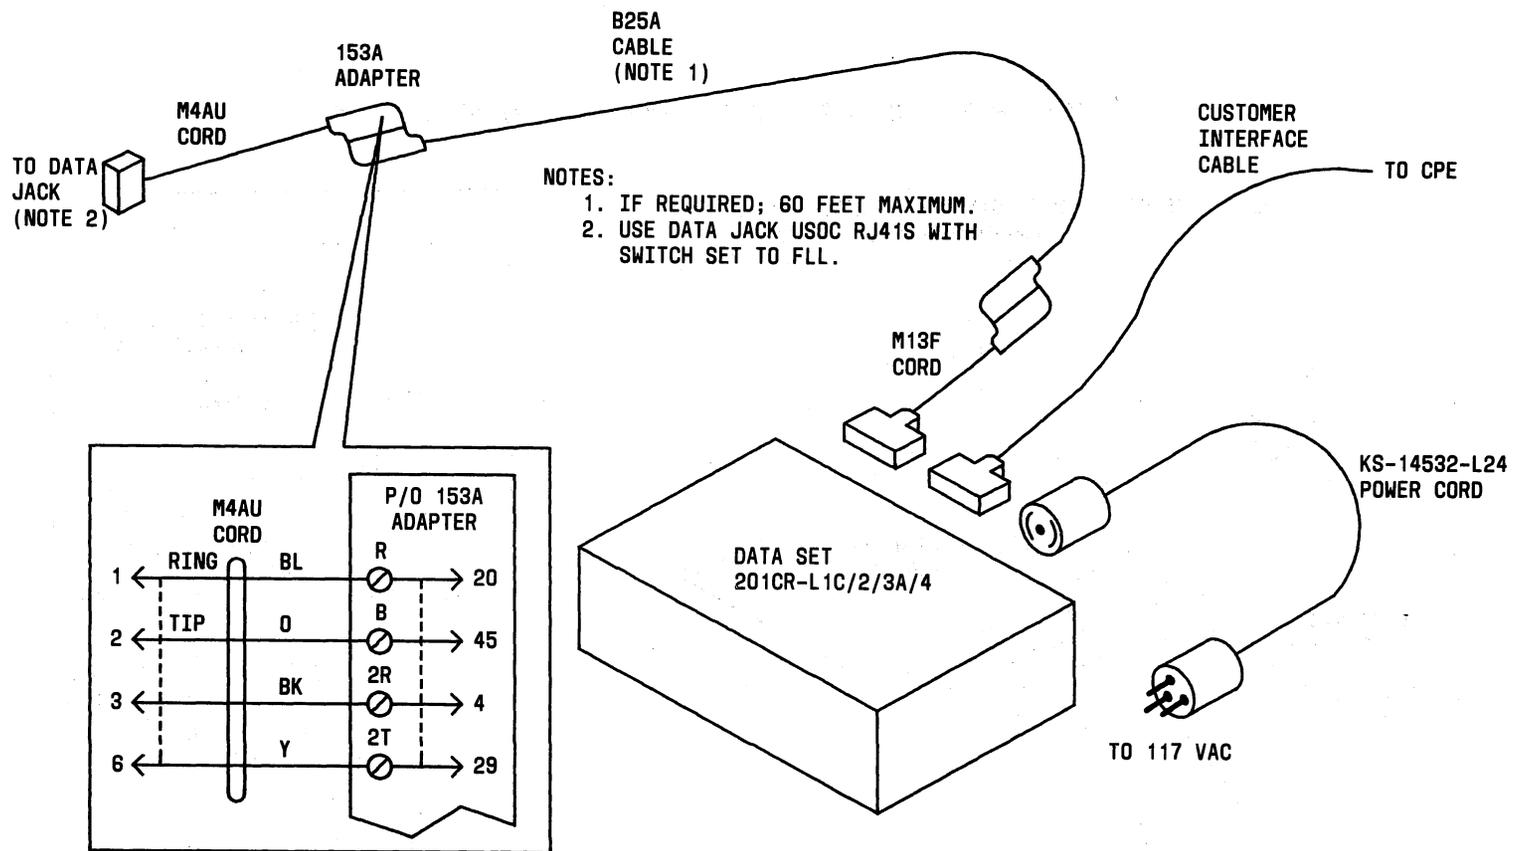
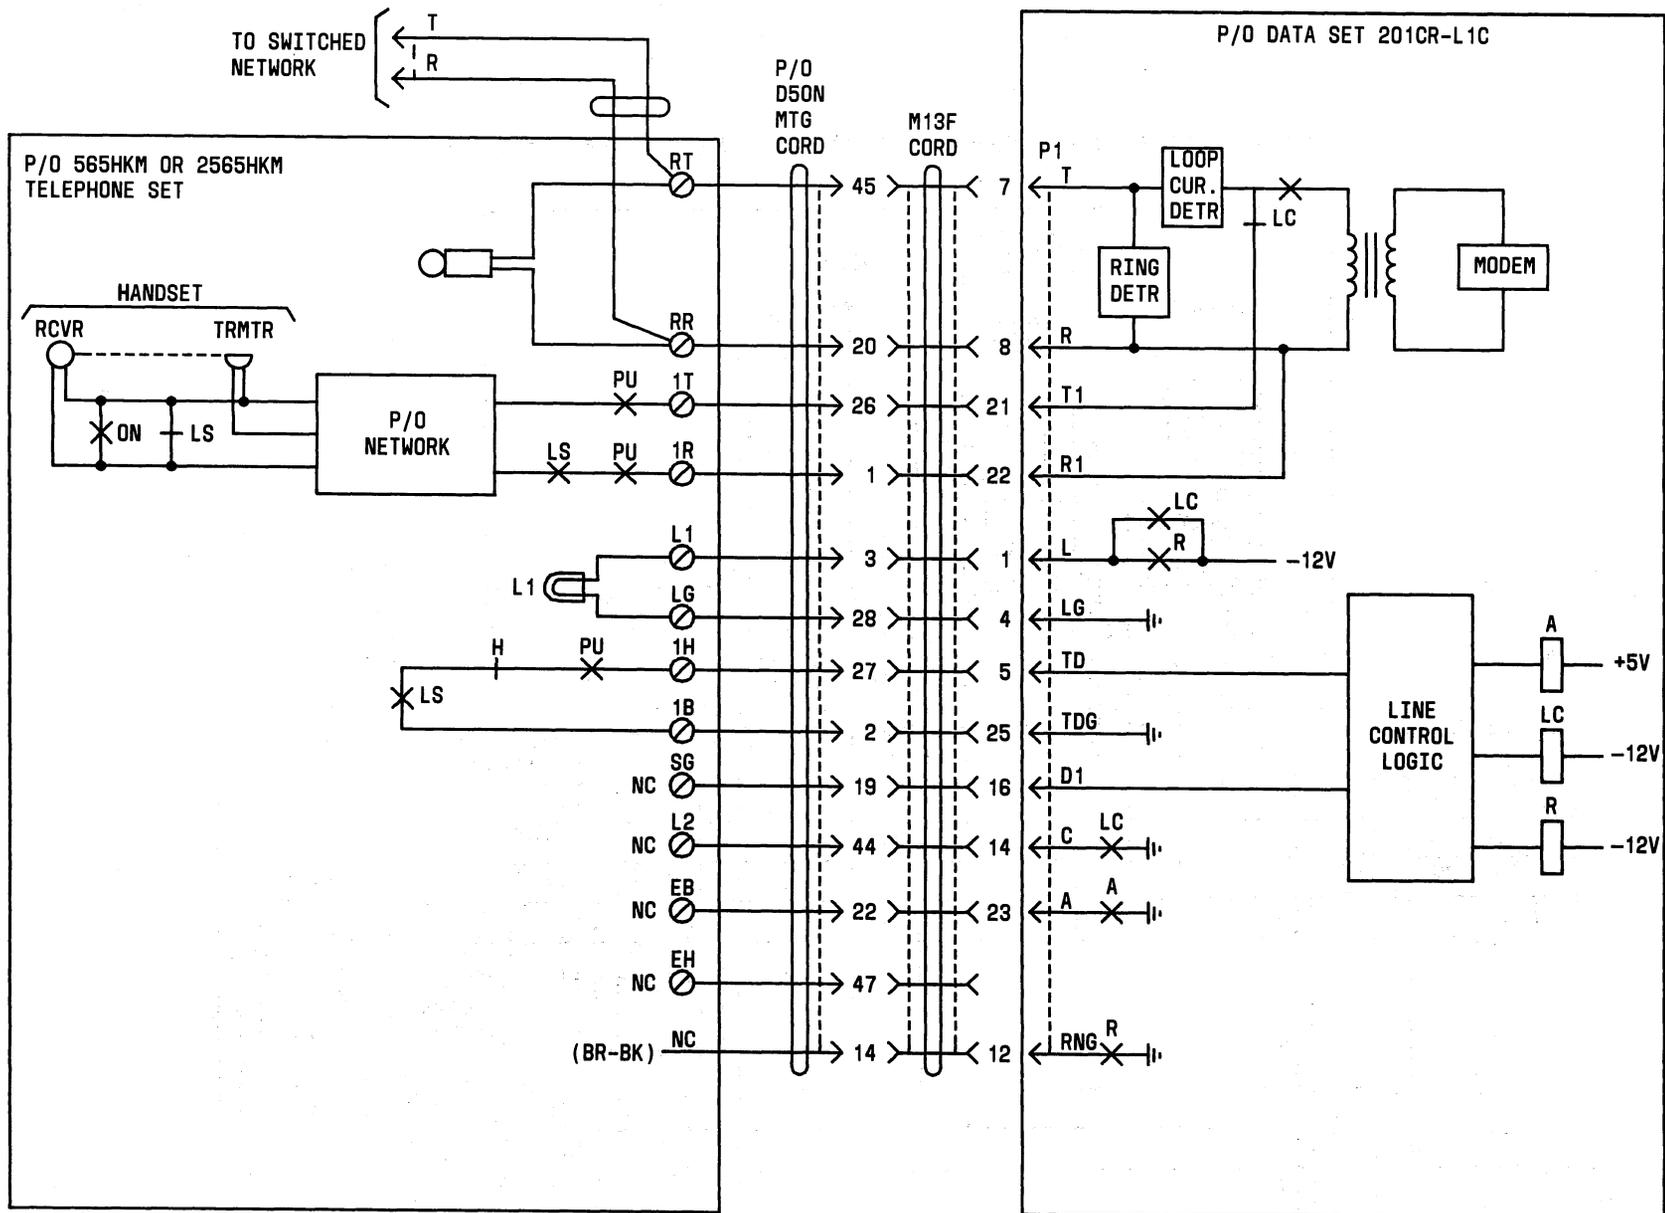

Fig. 4—Single Data Set—Connection Diagram
Fig. 14—Single Data Set With Telephone Set—Interface Diagram
4.01 The station arrangements in paragraphs 4.02 through 4.11 comply with the FCC Registration Program. A connection diagram (Fig. 4 through 13) and a list of parts required are provided for each arrangement. Figures 14 through 18 are provided to aid troubleshooting of the arrangements.
4.02 *Single Data Set:* The connection diagram for this arrangement is Fig. 4.